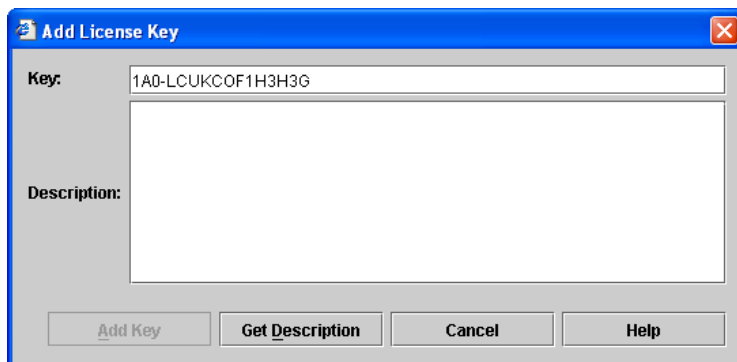

Figure 37 Add License Key dialog
4. Click **Add** to open the Add License Key dialog shown in Figure 37.